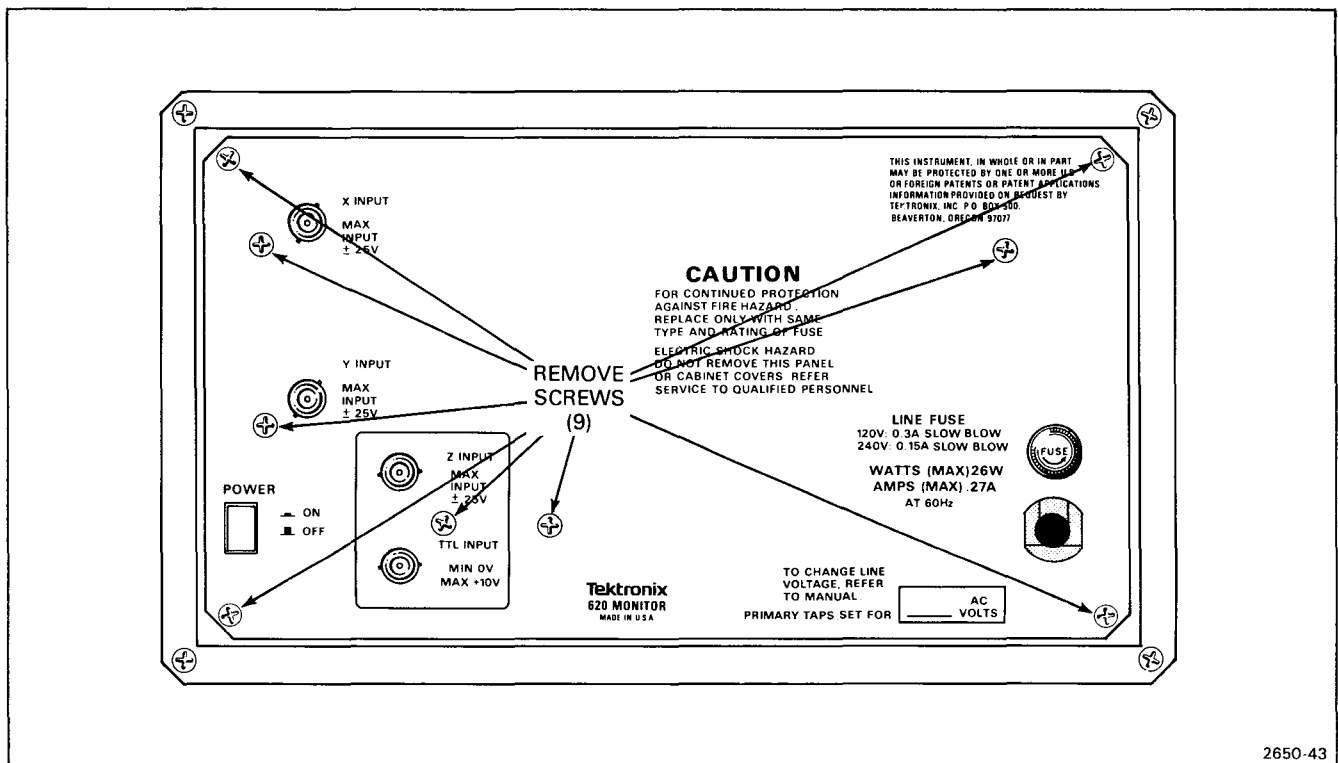

Figure 5-6. Screw locations for rear panel removal.
2. Remove rear panel (see Fig. 5-6).